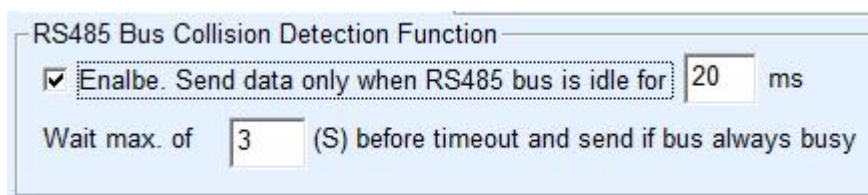
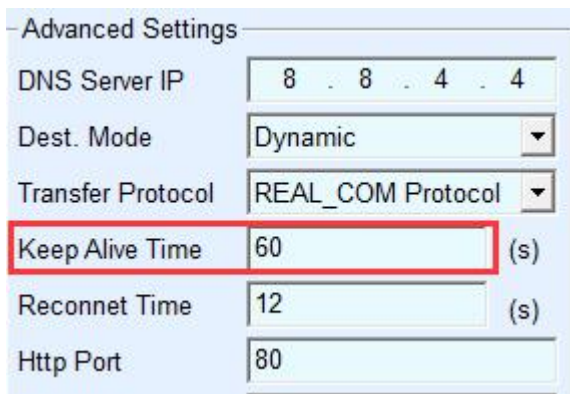

Figure 37 RS485 conflict free time
FIG. 41 Keep-alive time
- 1) Figure 37 shows the "RS485 bus anti-collision time", which can be set as twice of the "packet interval" in the lower right corner of the parameter configuration interface, but the minimum value should not be less than 20.
At this point, it is important to note that the two checkmarks shown in figure 37 as "RS485 bus anti-collision time" and figure 41 as "RS485 instruction reply timeout time" need to be removed. Otherwise, the above forwarding function cannot be realized.